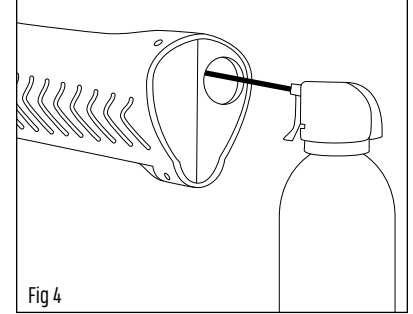

Fig 4
6. While still in well-ventilated area, aim LifeLite™ barrel in safe direction and spray compressed air into magazine slot (rear of launcher) to blow excess projectile powder out of barrel. (Fig 4)